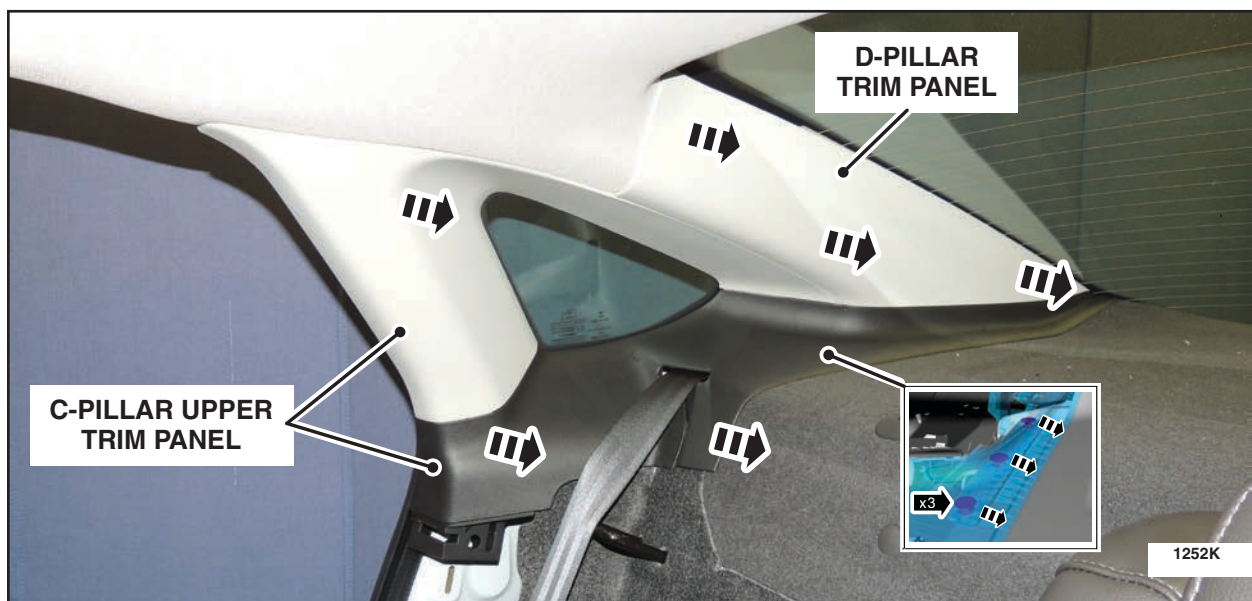

FIGURE 9
16. Remove the RH and LH upper C-pillar and D-pillar trim panels together. See Figure 9 and 10.